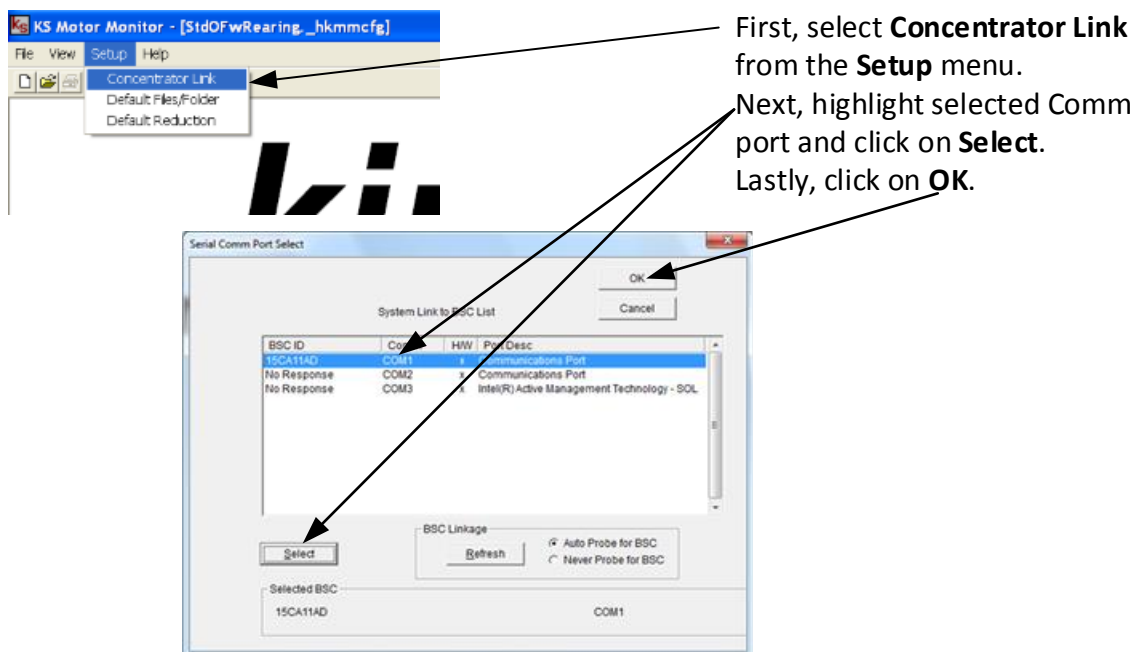

Figure 1-4. Selecting the Comm Port
2. Select the **Setup** pull-down menu. Click on **Concentrator Link**. Select a Comm Port and Click **OK**. This is shown in Figure 1-4.